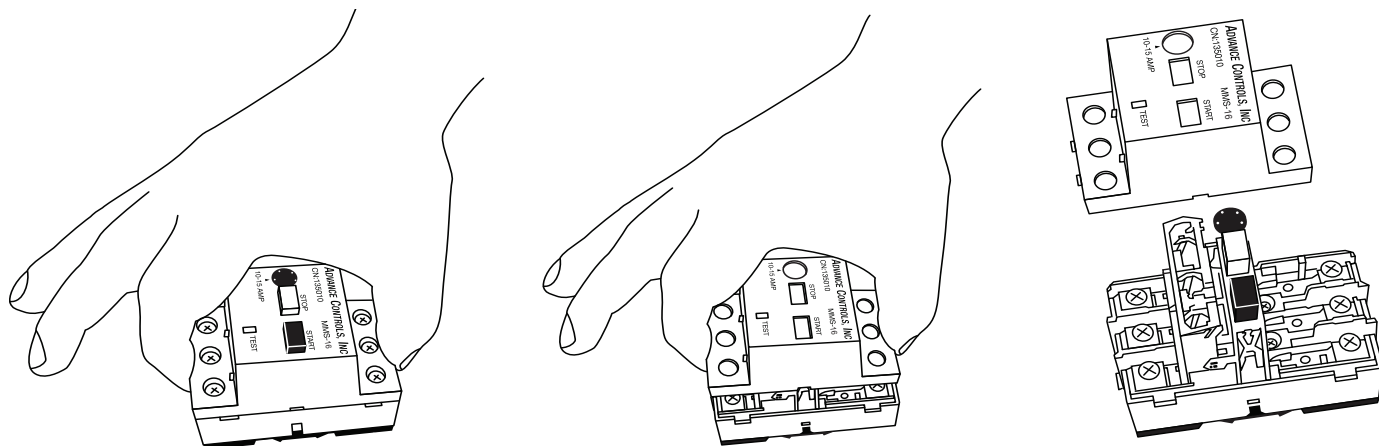

Fig. 124 — Removing the MMS Cover
4. Remove the top cover of the MMS by pressing lightly with thumb and forefinger by L2 and T2, and pull straight up. See Fig. 124.